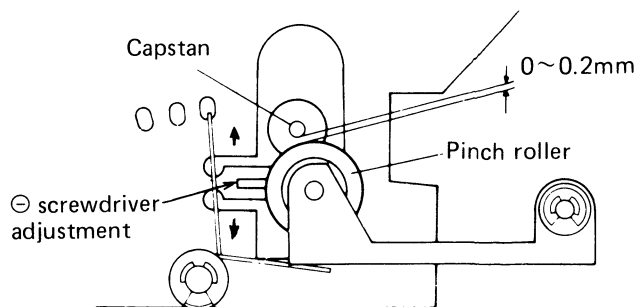

Fig. 37
2. If the precise adjustment mentioned above is not possible, then when the clearance between the pinch roller and capstan is within 0—0.5mm adjust switch bracket as described in item 1 above.
3. After adjusting item 2 above, adjust the clearance between the pinch roller and capstan to within 0—0.2mm by inserting a screwdriver at the contact point with the pinch arm of the head base (Fig. 37).